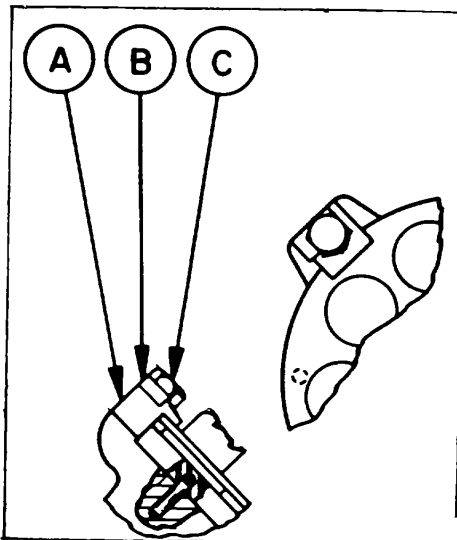

Figure 123.
On older units, remove two hex bolts (A) tab lock washers (B) and return plate guides (C). See Fig. 123.